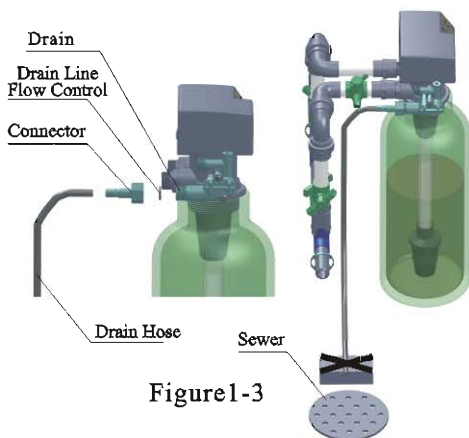

Figure 1-3
③ Install drain pipe
a. As Figure 1-3 shows: slide the drain hose connector into drain outlet.
● Be sure not connect drain with sewer, and leave a certain space between them, avoid wastewater be absorbing to the water treatment equipment, such as showed in the Figure 1-3.